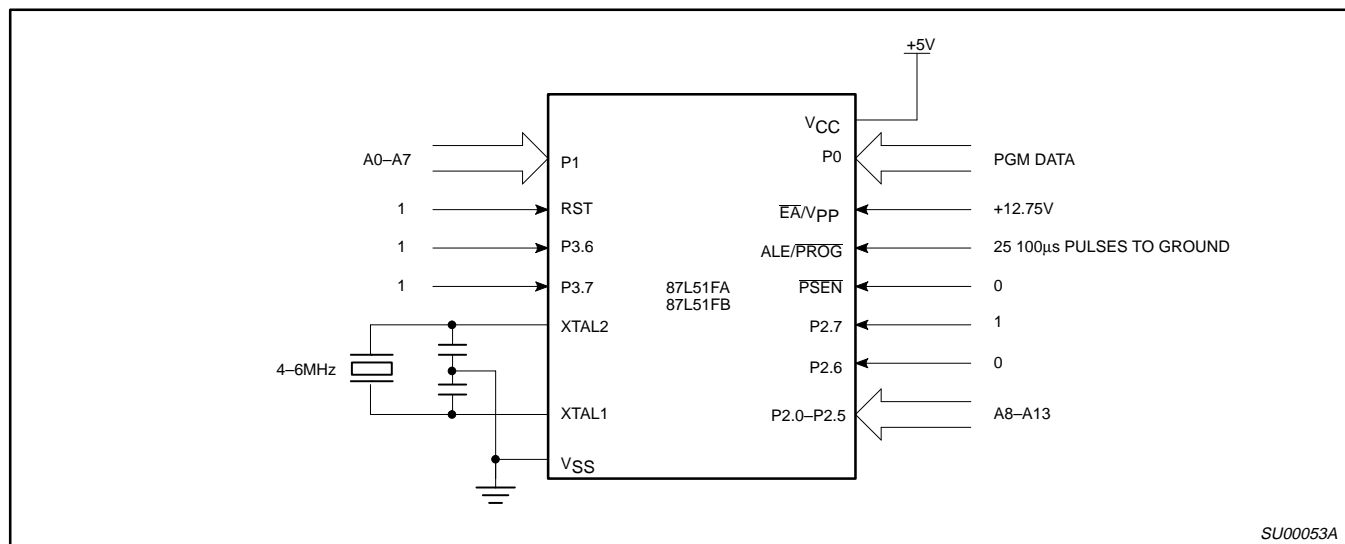
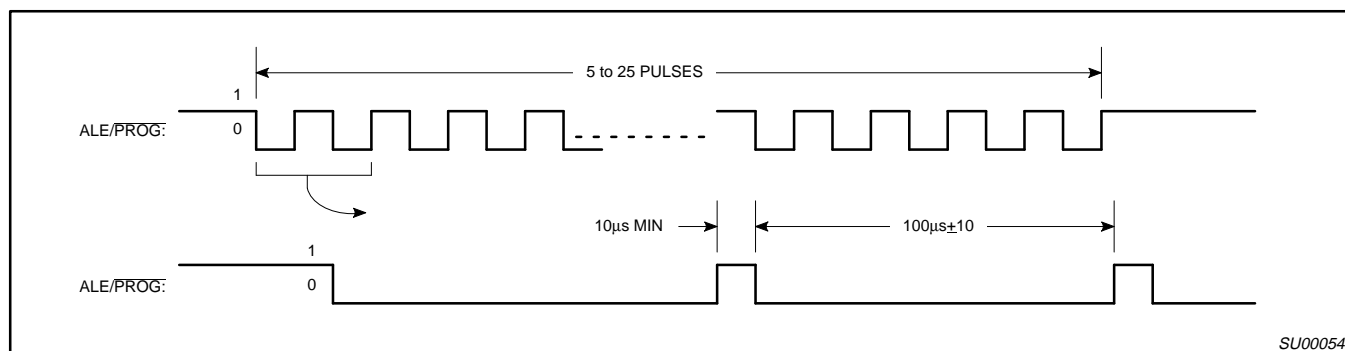
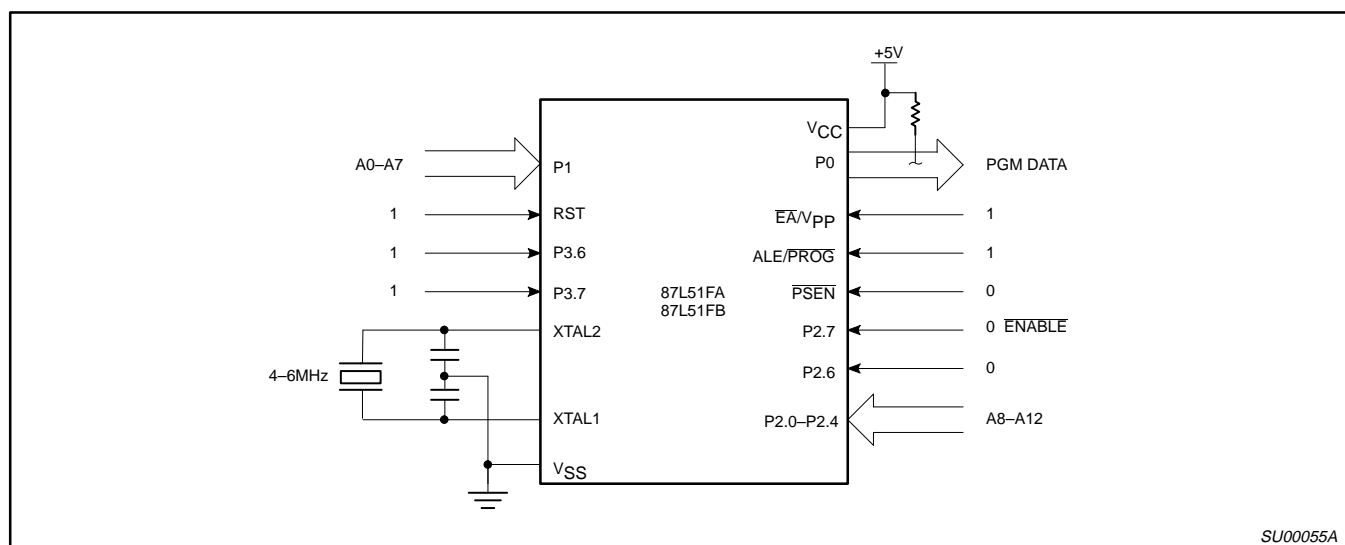

Figure 13. Programming Configuration
Figure 14. PROG Waveform
Figure 15. Program Verification
Table 2 shows the logic levels for reading the signature byte, and for programming the program memory, the encryption table, and the security bits. The circuit configuration and waveforms for quick-pulse programming are shown in Figures 13 and 14. Figure 15 shows the circuit configuration for normal program memory verification.
The setup for microcontroller quick-pulse programming is shown in Figure 13. Note that the 87L51FA/FB is running with a 4 to 6MHz oscillator. The reason the oscillator needs to be running is that the device is executing internal address and program data transfers.
The address of the EPROM location to be programmed is applied to ports 1 and 2, as shown in Figure 13. The code byte to be programmed into that location is applied to port 0. RST, \overline{PSEN} and pins of ports 2 and 3 specified in Table 2 are held at the 'Program Code Data' levels indicated in Table 2. The ALE/PROG is pulsed low from 5 to 25 times as shown in Figure 14.
If security bit 2 has not been programmed, the on-chip program memory can be read out for program verification. The address of the program memory locations to be read is applied to ports 1 and 2 as shown in Figure 15. The other pins are held at the 'Verify Code Data' levels indicated in Table 2. The contents of the address location will be emitted on port 0. External pull-ups are required on port 0 for this operation.
- * FOR PROGRAMMING VERIFICATION SEE FIGURE 13.
FOR VERIFICATION CONDITIONS SEE FIGURE 15.